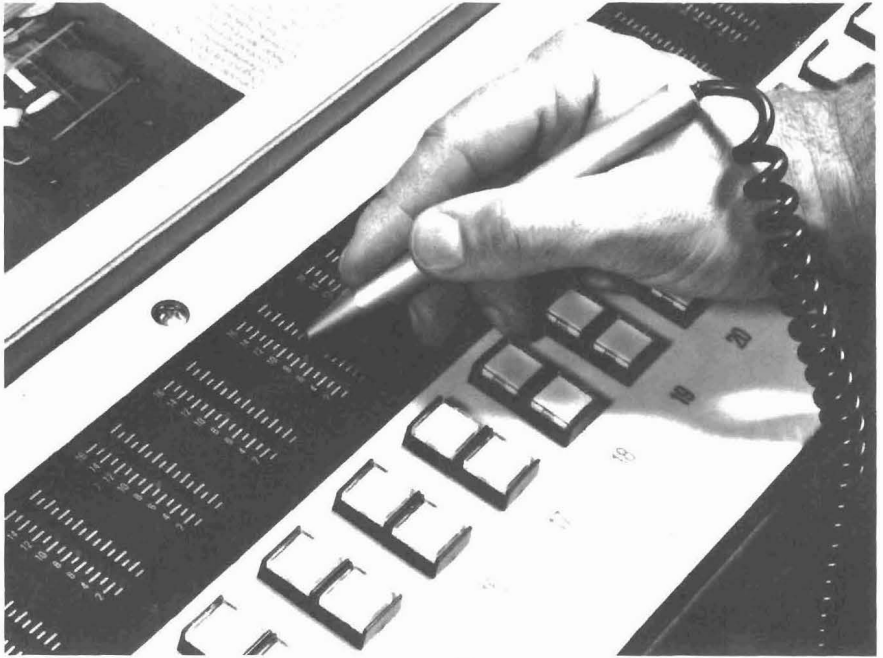

Fig. 5
- Light pen (Fig. 5) for quick presetting the ink keys according to the printers visual examination of the plate. Diodes flicker with high frequency, the pen senses the actual position. As far as we know it's the only one in the world applied to a printing machine.